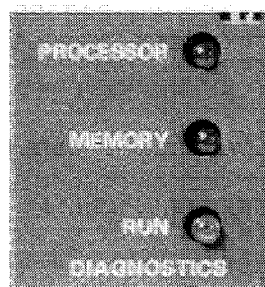

Figure 5.1 — Mini-Processor Diagnostic Indicators
**5.1.1 Diagnostic Indicators** — Indicators on the front of the Mini-Processor Module aid in analyzing controller status. (Refer to Figure 5.1.) During its operation in any mode, the Mini-Processor Module continuously monitors its own status, through checks on timing and data parity. In addition, the Mini-Processor receives a signal from the Power Supply if user line power goes low for longer than one-half cycle. (Refer to Paragraph 2.4.1.)